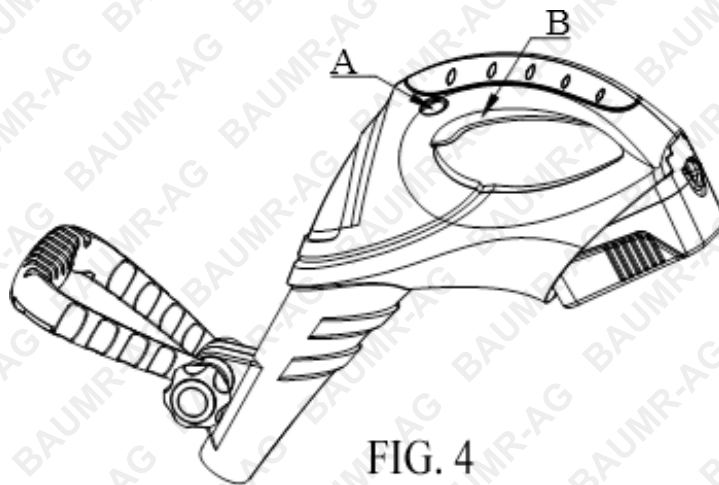

FIG. 4
1. Grip rear handle and press trigger lock-off button (A) with thumb, then pull trigger switch (B) (See FIG. 4).